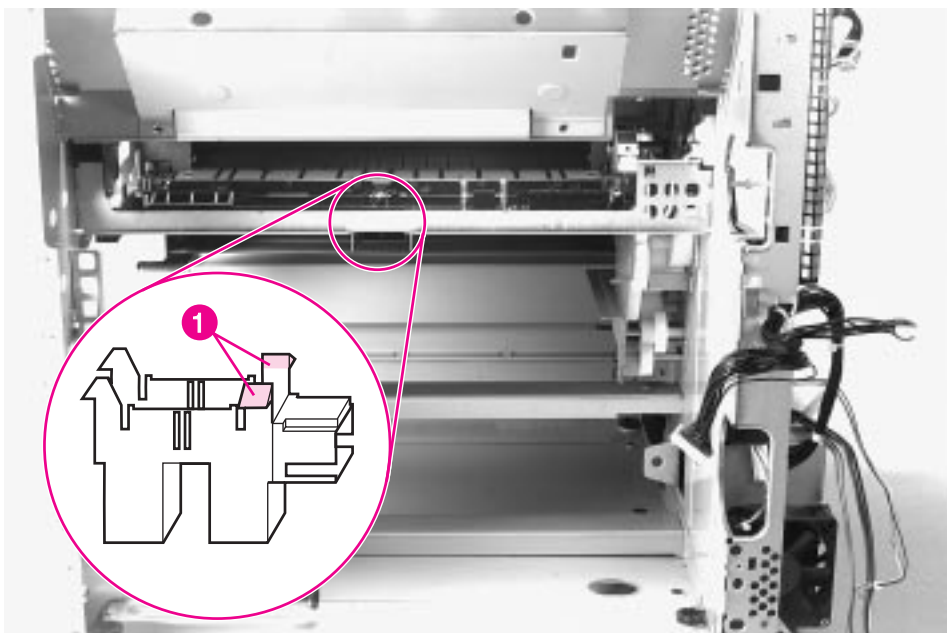

Figure 6-50 Registration Sensor (PS1)
- 2 Release the retaining tabs (figure 6-50, callout 1) on the right end of the sensor and rotate the sensor down to free the tabs on the left end of the sensor.